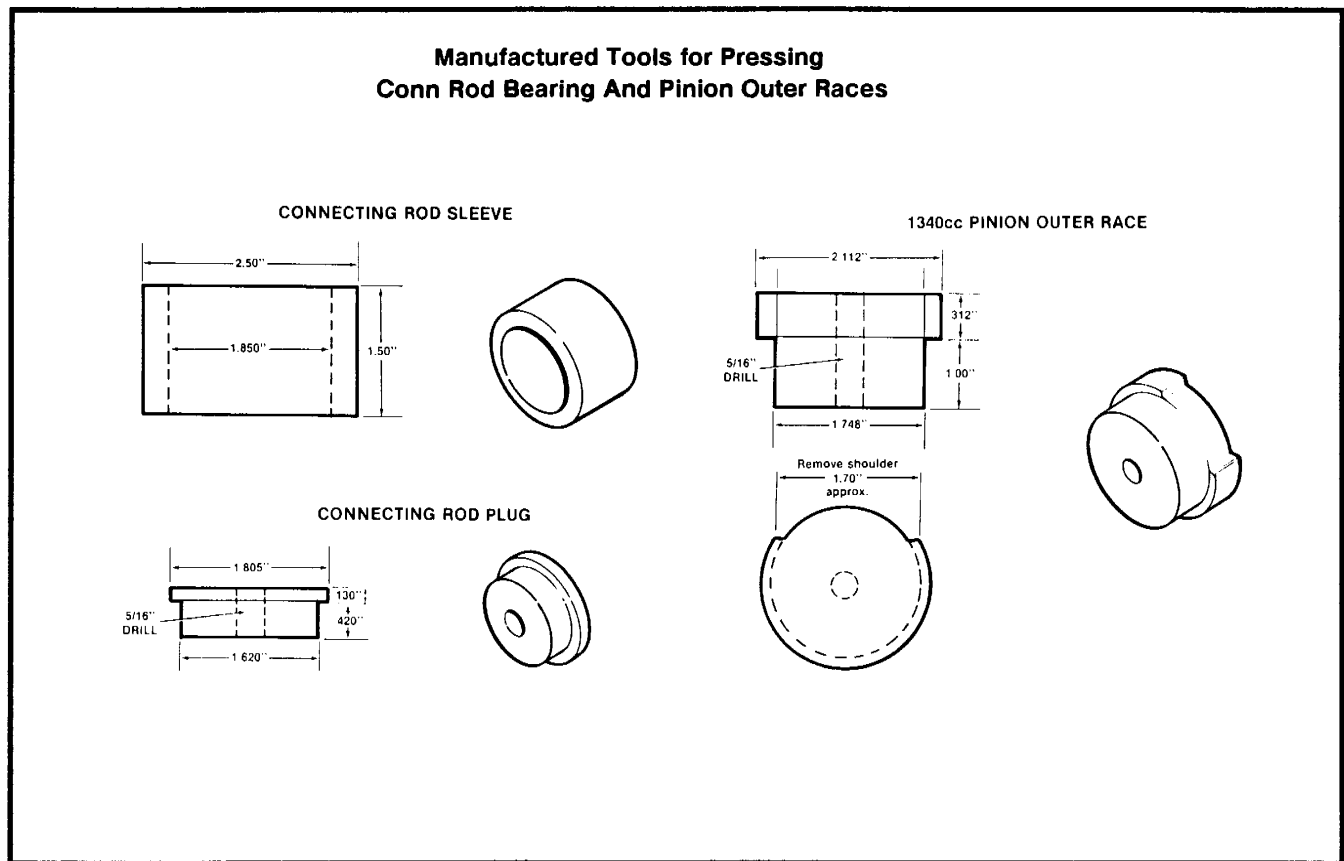

Figure 3-56. Manufactured Tools
1. See Figure 3-56. Make a plug and sleeve to the dimensions shown.
See Figure 3-42. A race that is worn beyond limits of oversize bearings must be replaced. To remove bearing race, heat case to 275°-300° F. Heating expands case and makes it possible to remove bearing race using less force. See Figure 3-56. Make up a plug as shown. Press worn race (17) out and new race in. New race must be lapped slightly to true and align with left case bearing, and to attain a size compatible with roller sizes available.